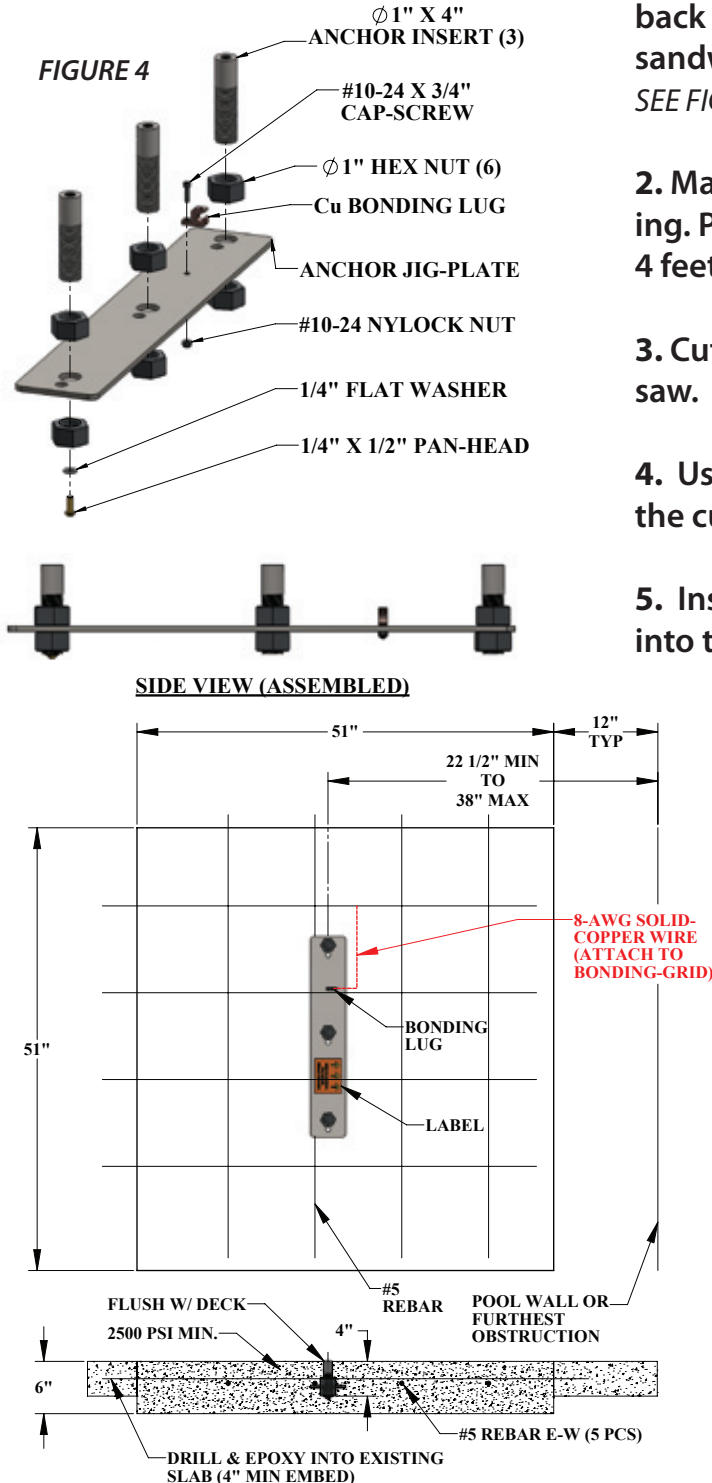

FIGURE 5
5. Install rebar in the open area of the deck. Tie the rebar into the existing deck if possible. *SEE FIGURE 5*
6. Set the anchor system in place. For ADA compliance and clearance, make sure the center of the large anchor jig plate hole is between 22.5 and 38 inches from the pool's edge. *SEE FIGURE 5*
8. Bond the anchoring system according to your local code requirements by using the bonding lug on the anchor plate. *SEE FIGURE 5 (See NEC Article 680.26)*
2. Install rebar in the open area of the deck. SEE FIGURE 5, PAGE 6
5. Bond the anchoring system by using the bonding lug on the anchor jig plate. Bond the system according to your local code requirements. (See NEC Article 680.26) SEE FIGURE 5, PAGE 6